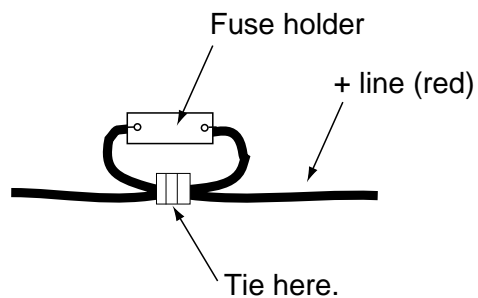

Figure 6-4 How to fix spring in fuse holder
**Note:** The fuse holder contains a spring that fixes the fuse. To prevent detachment of the spring, which would cause loss of power, tie the line as shown in Figure 6-4.